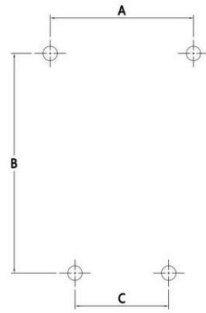

Figure 3-11 Installation fixing holes diagram (200kW-355kW)
- To ensure the normal operation of the frequency converter, it needs to be fixed reliably. Please drill the fixing holes in advance according to Table 3-5 and Figure 3-11, and use the specified fasteners as per Table 3-5.